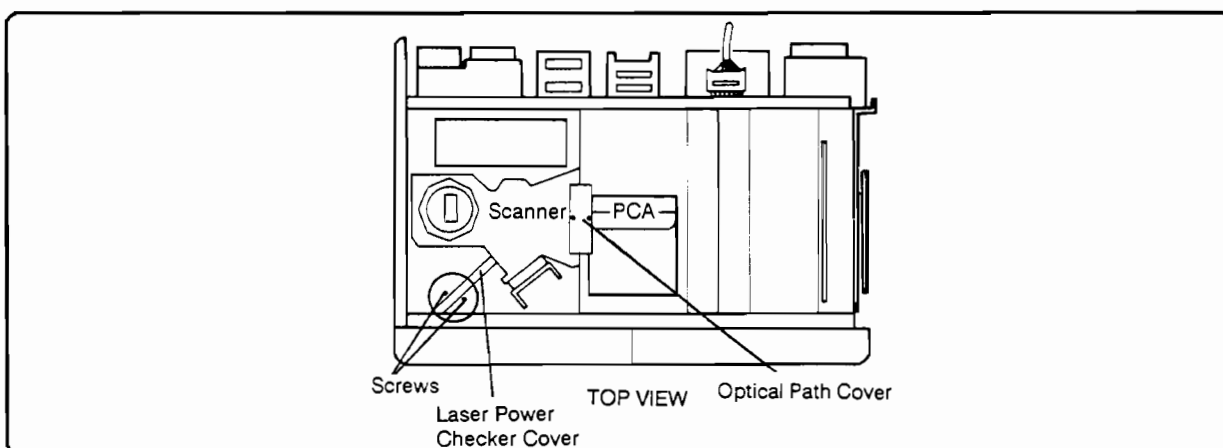

Figure 6-42. Laser/Scanner Area Covers
5. Remove the two screws and detach the laser power checker cover (Figure 6-42).